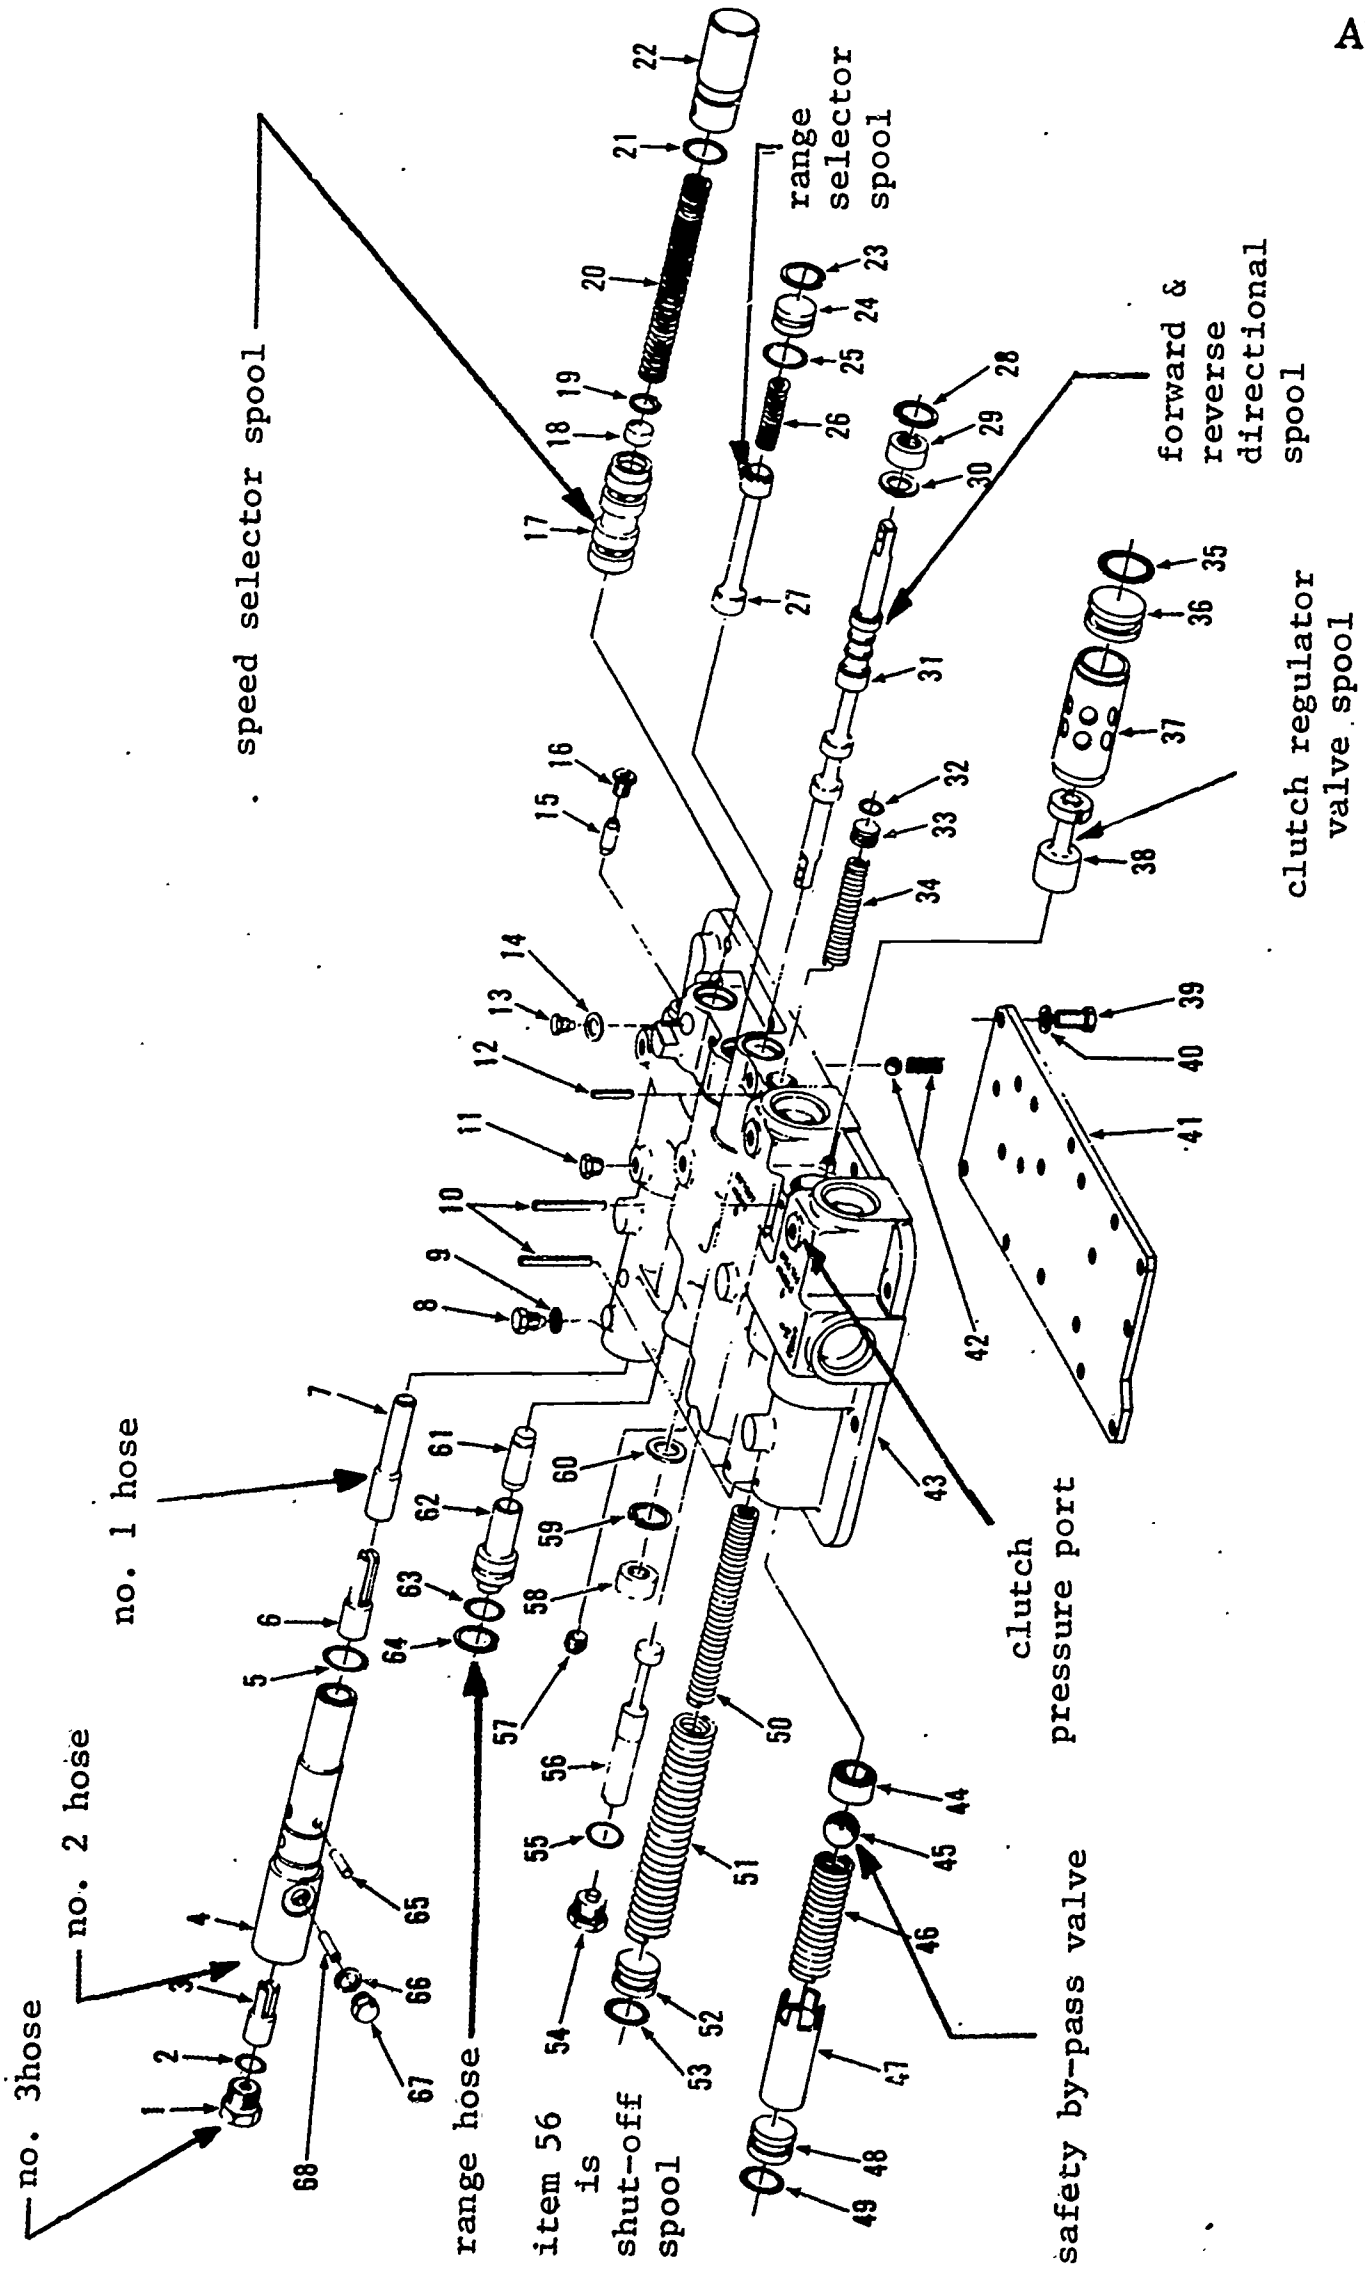

Fig. 12 Breakdown of the transmission control cover
- (1) Be sure that the same number of shims are replaced that were removed, and
- (2) Position the shift control valve in the 8th gear position. When looking in the supply hole, the spool land should be covering half the hole.
Figure 12 shows a parts breakdown of the transmission control cover. The function of the hydraulically shifted control cover is the same as for the mechanically shifted cover. The only difference is that the speed selector spool and range selector spool are moved either by spring pressure, or by oil pressure overcoming the spring pressure. Hose (3) connects to the end of the selector valve assembly, and pressure works on the first piston, item No. 3. Hose (2) connects on top of the selector valve assembly, and pressure works on the second piston, item No. 6. Hose (1) connects on top of the selector valve assembly, and pressure works on the third piston, item No. 7. The range line connects to the end of the range selector valve assembly, and oil pressure works on the piston, item No. 61.